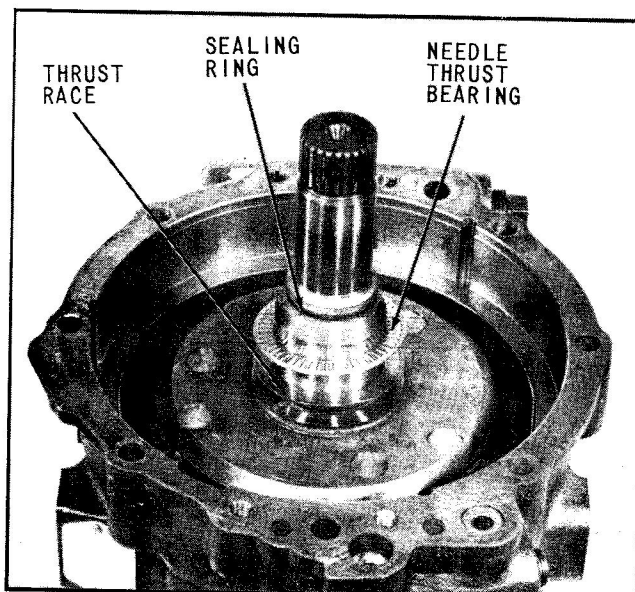

Fig. 47 Carrier Assembly Properly Installed
11. Using a twisting motion to align gear teeth and clutch plate teeth with mating parts, carefully lower input shaft and carrier assembly over sun gear and into direct clutch, (Fig. 47).
12. Place the flat needle thrust race, and then needle bearing on forward thrust face of carrier assembly, (Fig. 47).
13. Install cast iron sealing ring in groove of input shaft, (Fig. 47).